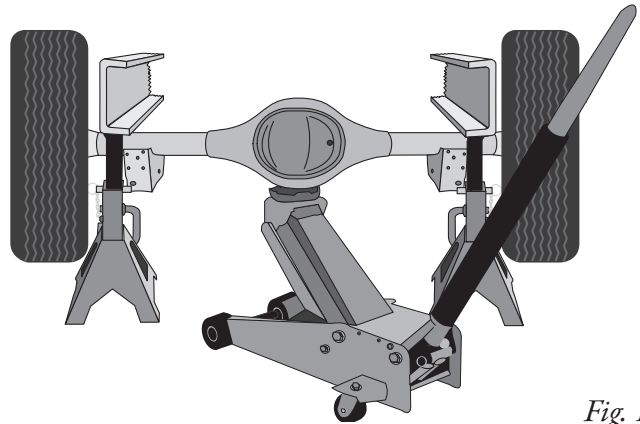

Fig. 1
1. Jack up the rear of the vehicle or raise on a hoist. Support the frame with safety stands (Fig. 1). Lower the axle or raise the body of the vehicle until the springs are completely extended.